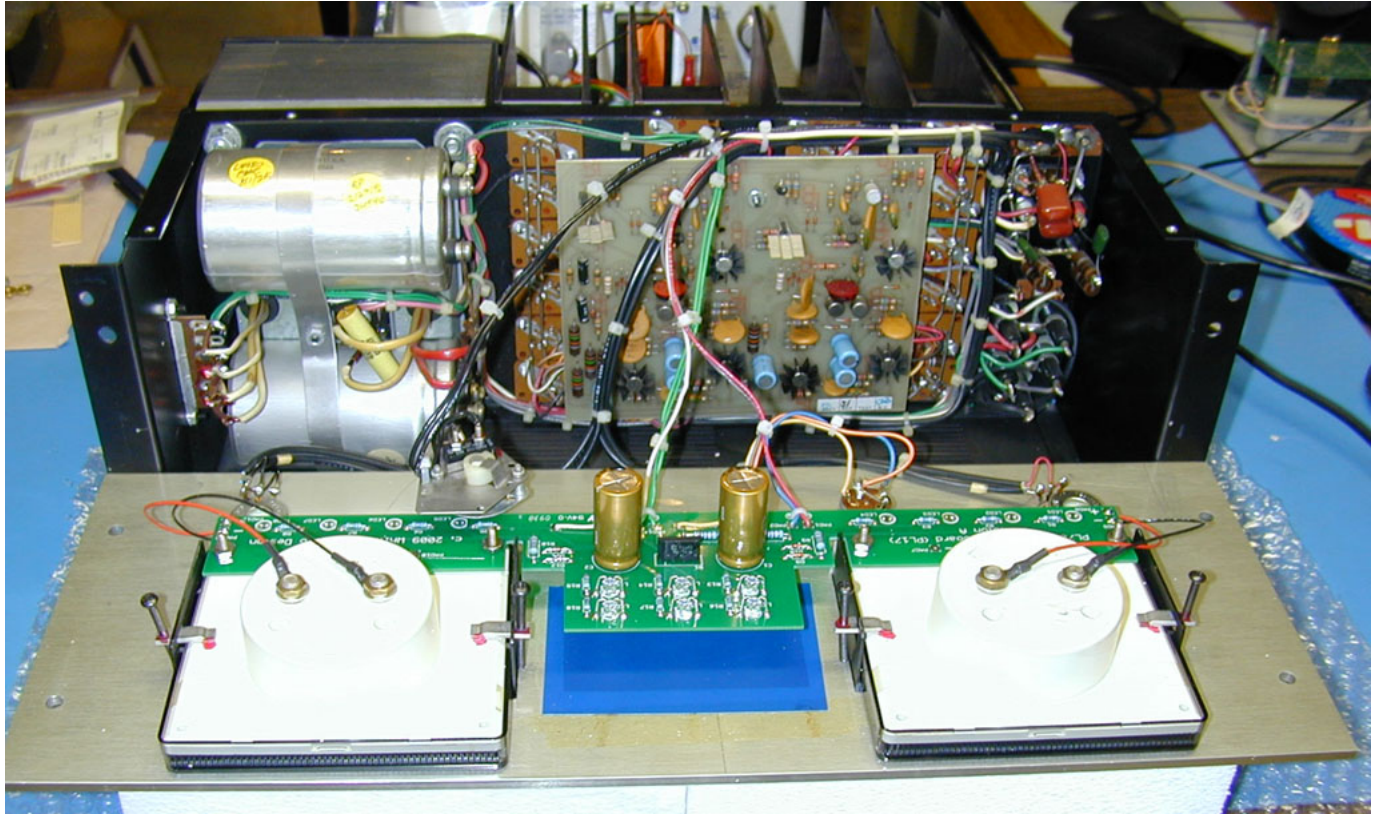

Figure 18. Installed LED Light Board Assembly and Wires Dressed with Ty-raps
23. [] Once installation is complete, your light board will look like the illustration in Figure 18 below. Make any minor adjustments to the LED orientation necessary to ensure that they point uniformly into the meters and logo.